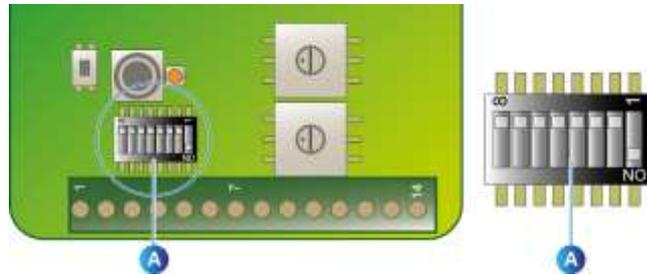

Figure 48: micro switch configuration on the *OLCT 80*.
- Position the microswitches as shown below (Figure 48, A) **on the wireless card of each *OLCT 80***: